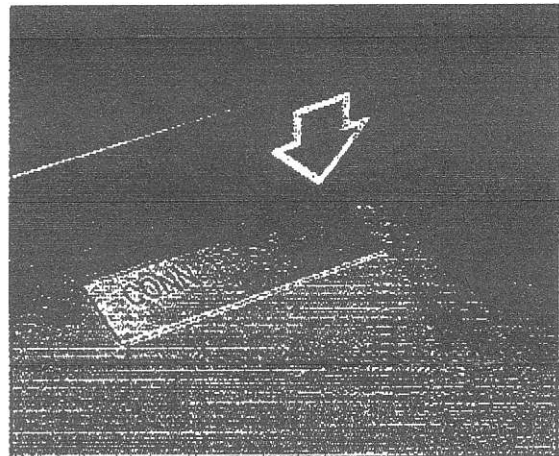

Fig. 29 Circuit Breaker at Connected Position
- 5) Stop rotating the racking handle when the racking screw thread has cleared the racking nut. You will hear a click sound as the arrow at the lower part of the circuit breaker comes in line with the red line of the **Connected Position** indicating plate on the cell floor (Fig. 29).